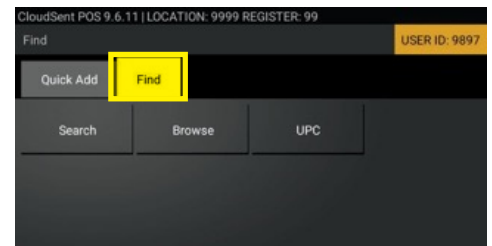

Figure 53
2. Tap the Find button to begin your product search (Figure 53).